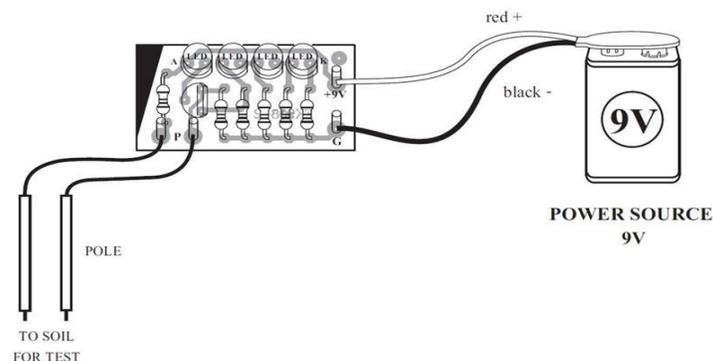

Fig 4 Attaching the wires
One by one, place the four poles into their positions on the PCB and solder into place. Once they are set, ‘tin’ each pole with solder. (For more information on “tinning”, please refer to our separate document “Towards Better Soldering”). The battery snap can be soldered into place by ‘tinning’ the leads and ensuring the black wire is attached to the ‘ground’ (G) or negative (-) pole and the red wire to the positive (+). Finally the two remaining wires can be tinned and then soldered to the two remaining poles. (See Fig 4 for attaching the wires).